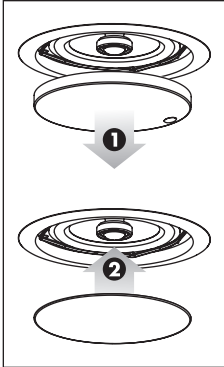

Figure 5.
1. Remove the grill from the speaker (figure 5, step 1).
2. Press the paint shield into place (figure 5, step 2).